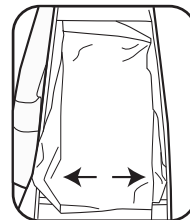

Fig. 3
3. Pull out the bottom corners of the new vacuum bag to expand the bag capacity (Fig. 3).